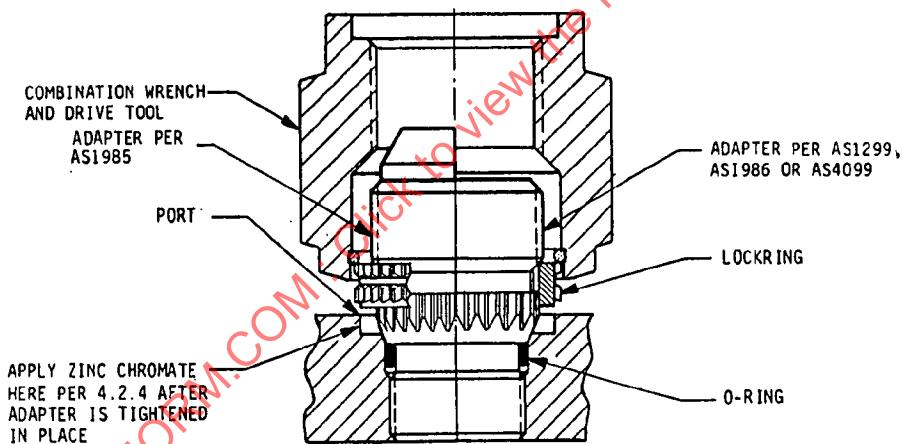

FIGURE 3 -Torquing Adapter Assembly
4.2.3 Using the applicable combination wrench and drive tool in Table II, engage the serrations of the tool with those on the external serrations of the adapter lockring per Fig. 3. Place a torque wrench of the proper size over the hex of the wrench and apply a torque equal to the minimum value specified in Table II. Note the relationship of the serrations of the lockring with respect to the prebroached serrations in the port. If they match, proceed to 4.2.4. If the serrations do not match the prebroached serrations in the port, continue to slowly torque the adapter toward the maximum value allowed in Table II until the serrations of the lockring match the port serrations. This will normally take between 3 and 8 deg of turning and the maximum value need not be reached if the serrations align themselves prior to that value. Do not exceed maximum torque values.